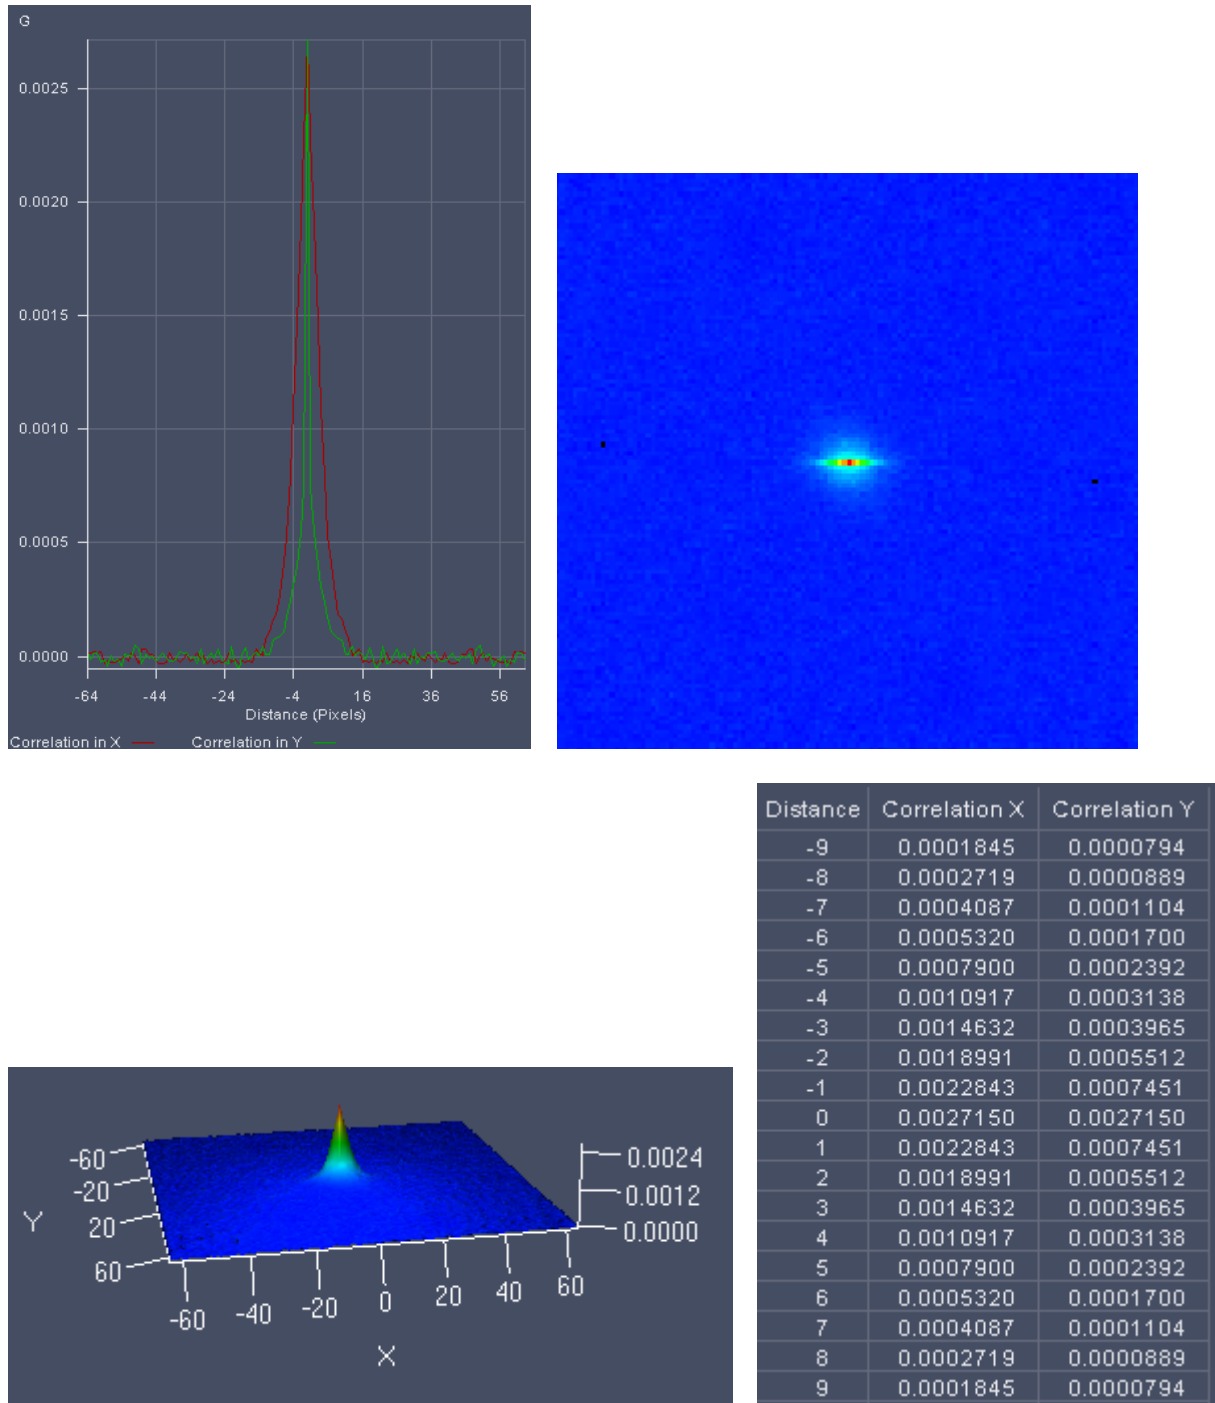

Fig. 595 Correlation displayed clockwise as Diagram, Image, Table and 2.5 D
2.5 D will display the correlation function and the fit / residuals if activated as pseudo 3D images (Fig. 595).